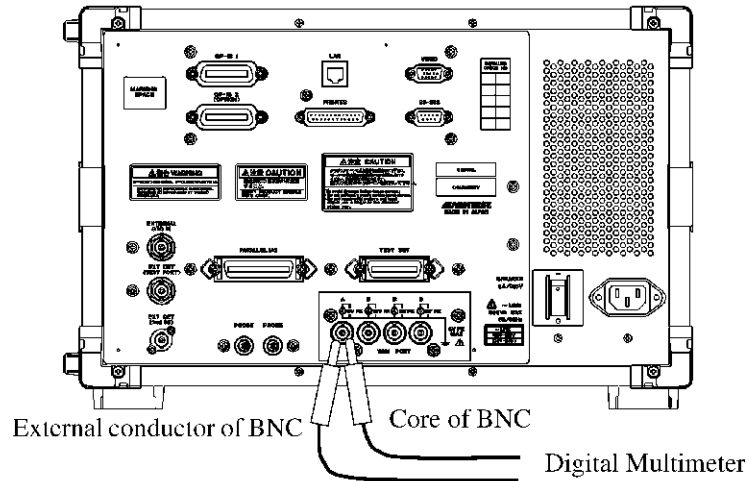

Figure 15-11 Current Accuracy Measurement on Channel A on the VSIM
5. Set the digital multimeter to the current measurement mode. Measure the current on channel A on the VSIM as shown in Figure 15-11. While the digital multimeter probe is connected, record the current measured value of CH A on the screen.